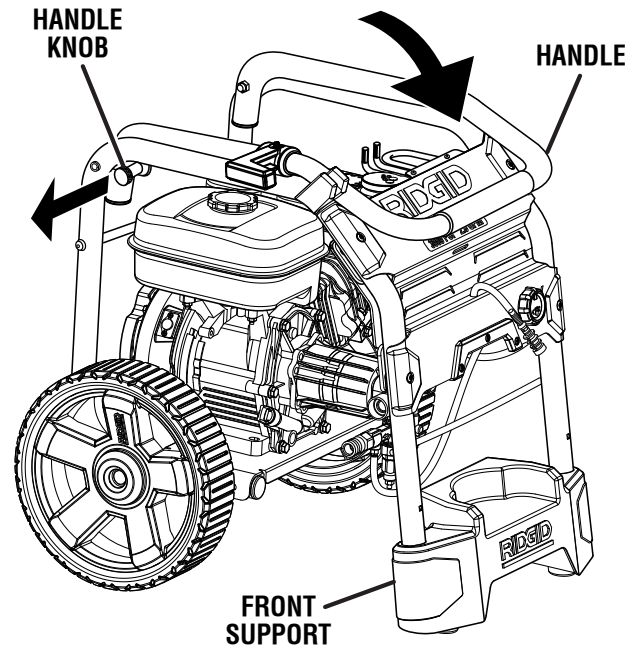

Fig. 4
See Figure 4.
- To lower the handle: pull the handle knob out then lower the handle to the position shown in figure 4.